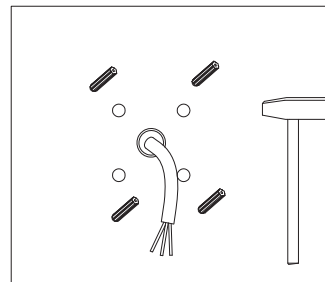

Figure 8
Step 5: Fix rubber anchor plugs into drilled holes (Figure 8);